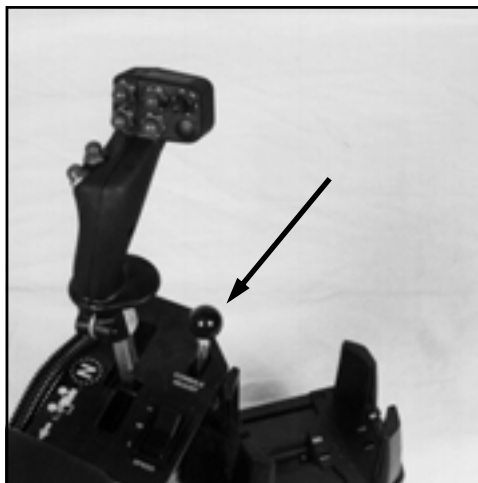

**FIG 5.88**
The seat-mounted console/armrest houses the hydrostatic drive control lever (with boom lift and level controls and foam system operation switch) (fig. 5.88, item 3), engine switch (fig. 5.88, item 2), operating panel for the hydraulic tread adjust (fig. 5.88, item 4), small storage tray (fig. 5.88, item 4), and adjustable drink holder (fig. 5.88, item 1).